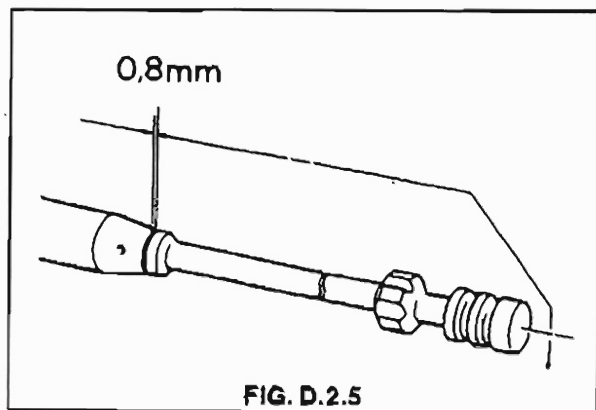

FIG. D.2.5
9. Ensure that clearance between gas piston and bolt carrier body has at least 0,8 mm free movement above piston centre line. See Fig. D.2.5